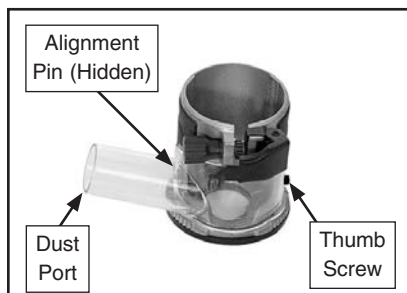

Figure 4. Fixed base with dust port.
3. Install and tighten thumbscrew (see **Figure 4**).